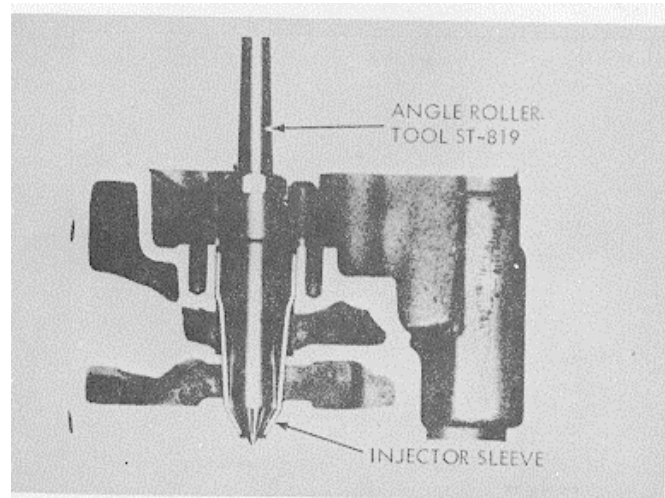

Figure 3-105. Water pump removal.
(1) Disconnect the water inlet and outlet hose and couplings from the water pump.
(2) Remove mounting capscrews and lockwashers securing water pump to block.
(3) Lift water pump from engine (fig. 3-105).